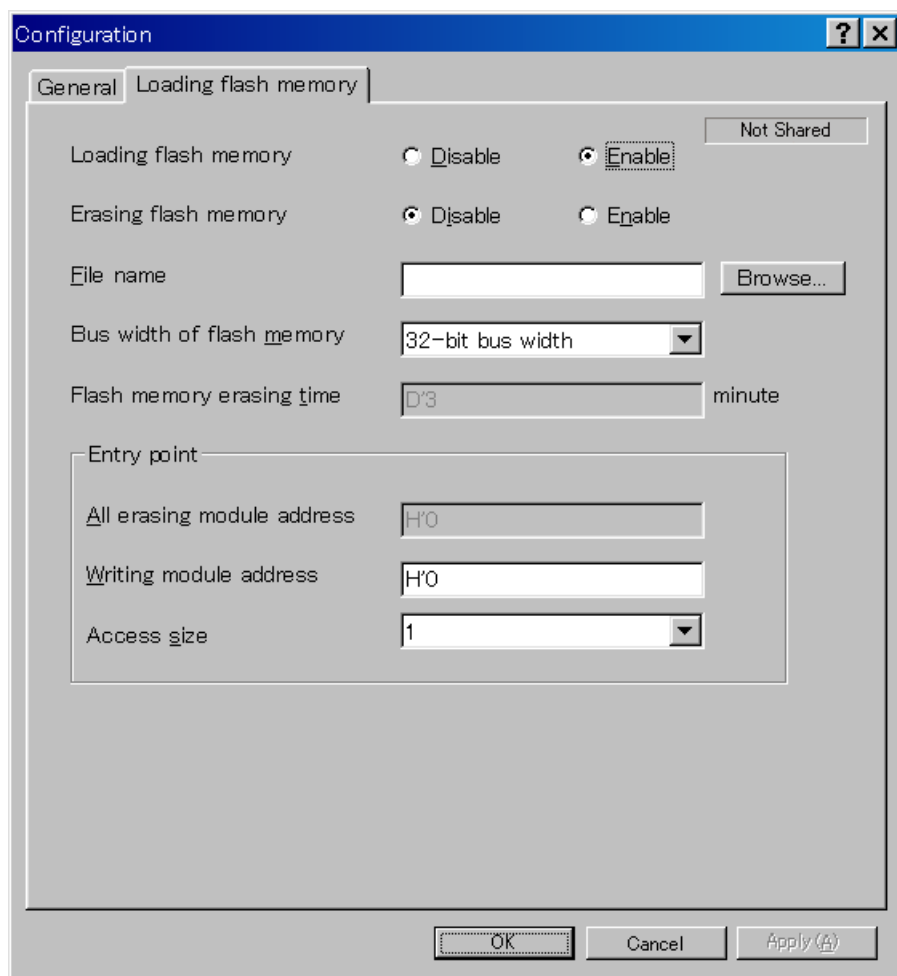

Figure 6.56 [Loading flash memory] Page
2. This function is not available depending on the MCU. For such an MCU, the [Loading flash memory] page shown in figure 6.56 will not be displayed.